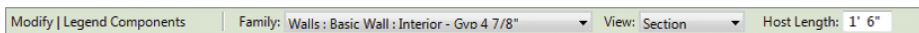

FIGURE 11.36 Select a legend component to access its properties in the Options Bar.
6. Highlight the inserted wall, and look at the Modify | Legend Components settings in the Options Bar (Figure 11.36).